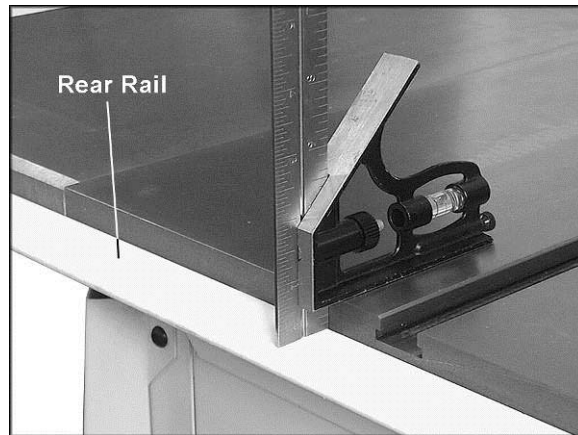

Figure 4
- The rear rail *must* be parallel to the table top to ensure proper fence operation. Measure the distance from the rail to the table surface at several points along the table. A sliding combination square is handy for this, as shown in Figure 4. All measurements should be the same. There is slight adjustment in the rail holes to allow for achieving parallelism with the table surface.